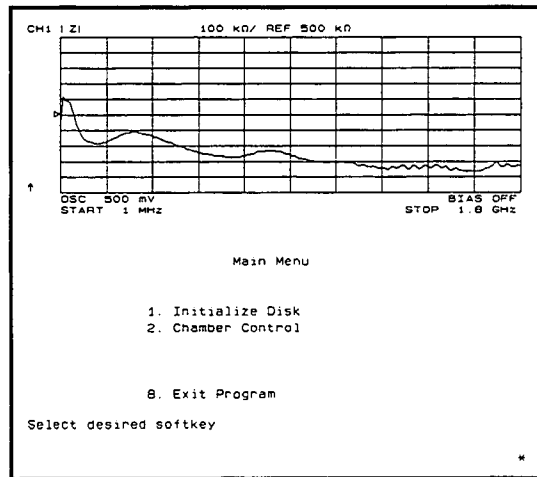

Figure 1-6. Main Menu of UTIL Program
6. The main menu is displayed as shown in Figure 1-6.